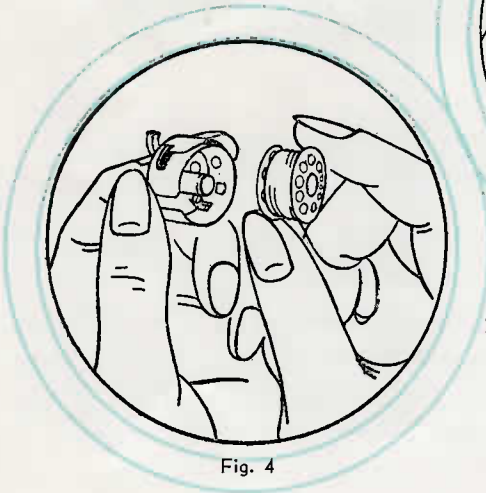

Fig. 4
Before threading the bobbin case, study Fig. 4, 5, 6 to get a general idea as to how it is done.
1. Hold the bobbin case with your left hand and put the bobbin into the bobbin case with your right, leaving about two inches of the thread end unwound (Fig. 4). As the bobbin is being inserted in the bobbin case, the thread flow is clockwise.